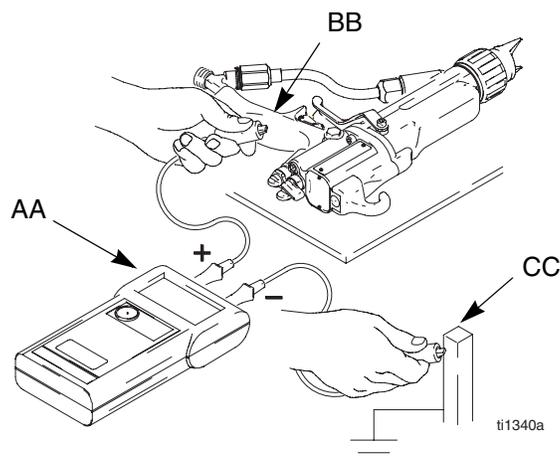

Fig. 3. Check Gun Grounding
Megohmmeter Part No. 241079 (AA-see FIG. 3.) is not approved for use in a hazardous area. To reduce the risk of sparking, do not use the megohmmeter to check electrical grounding unless:
4. Make sure the grounded air hose (R) is connected and the hose ground wire is connected to a true earth ground.
5. Measure the resistance between the gun handle (BB) and a true earth ground (CC). Use an applied voltage of 500 minimum to 1000 volts maximum. The resistance should not exceed 1 megohm. See FIG. 3.